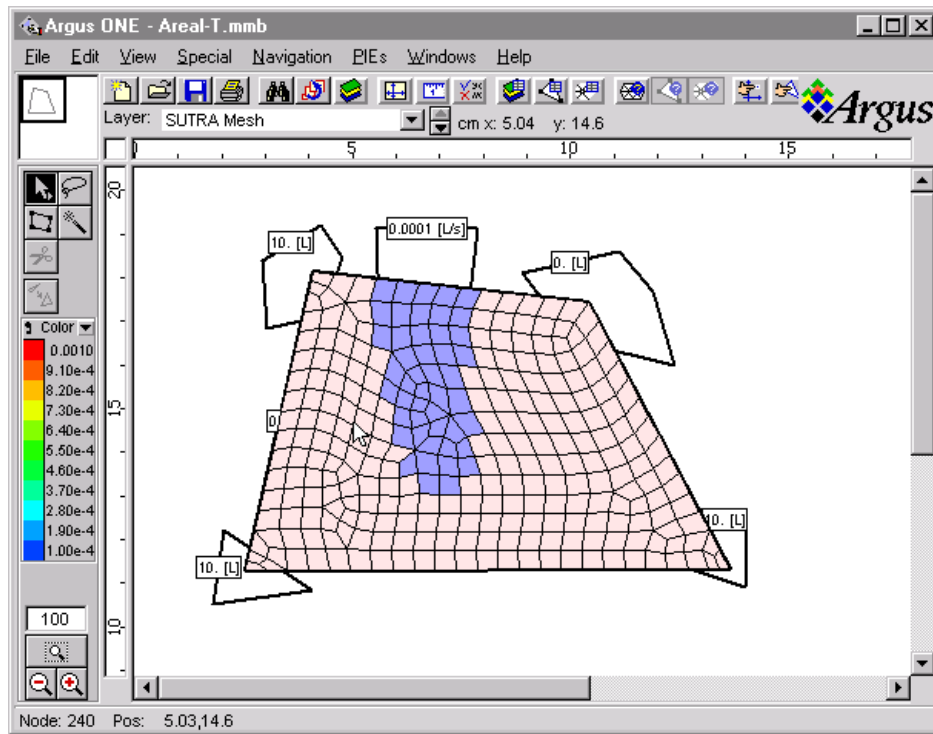

Figure 7. Mesh Representation of Low-Conductivity Barrier, areal solute transport step-by-step example
10. The elements are colored according to maximum conductivity value (see Figure 7 for an example). The barrier may now be examined to determine whether it was sufficiently discretized, for example, to avoid having high-conductivity 'holes' through it because elements are too large. If adjustments are needed, it is suggested that, for simplicity, the barrier is widened rather than refining the mesh at this point. Try adjusting the shape of the barrier by activating the **Hydraulic Conductivity** layer, clicking on one of its vertices and dragging it to a new position. Note that the discretization shown in the mesh layer adjusts automatically to the new barrier shape.